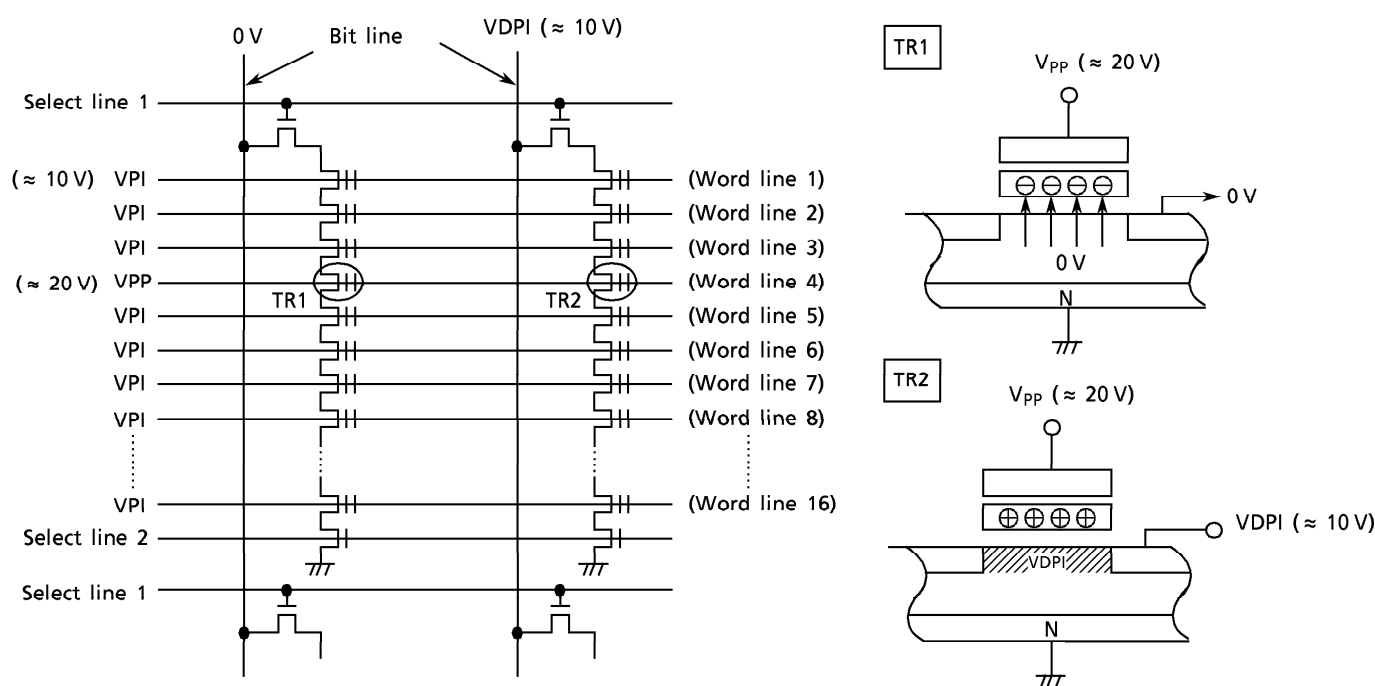

Figure 16. Program Device Physics
Figure 16 shows the NAND memory cell level details of the programming mechanism. The Program operation is used to write “0” data into an erased memory cell (“1” data cell) using a tunneling mechanism. An example Program operation to program “0” data into TR1 and “1” data into TR2 is as follows:
- (1) A high level is applied to Select line 1 and a low level is applied to Select line 2 so that the device is connected to the Bit line and disconnected from the ground line.
- (2) V_{pp} ($\approx 20\text{ V}$) is applied to the selected word line and an inhibit voltage of V_{PI} ($\approx 10\text{ V}$) is applied to the unselected word lines.
- (3) 0 volts is applied to the bit line tied to cell transistor TR1 and the inhibit voltage $VDPI$ ($\approx 10\text{ V}$) is applied to the bit line tied to TR2.
- (4) V_{pp} is applied between the control gate and the channel in TR1, as shown in Figure 16, which causes electrons to be injected from the channel to the floating gate by a tunneling mechanism.
- (5) The injected electrons are captured in the floating gate surrounded by an oxide layer and will remain, even after power is cut off, until they are removed by an Erase operation.
- (6) Although 20 volts is applied to the control gate of TR2, the voltage difference between the control gate and the channel is only 10 V because the voltage of the channel is 10 V. Therefore, tunneling does not take place. (i.e. the electron is not injected into the floating gate.)
- (7) Tunneling does not take place in the unselected pages because of the 10 V (V_{PI}) applied to the unselected word lines which makes the voltage difference between the control gate and channel only 10 volts.